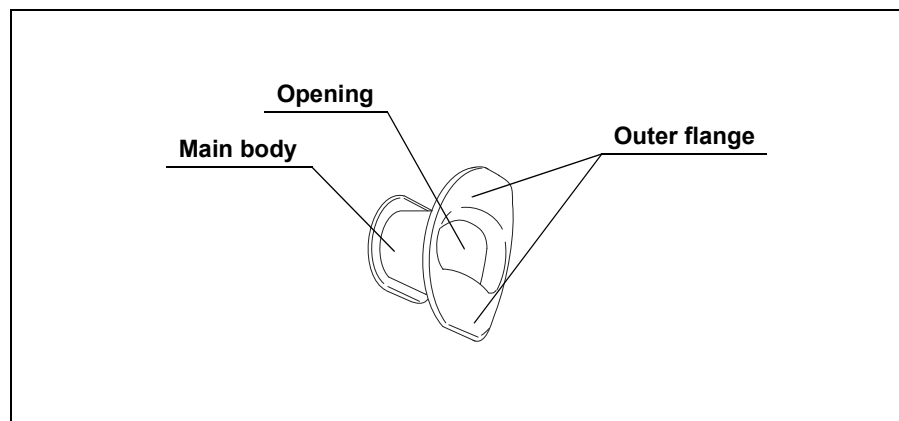

Figure 3.15
1. Confirm that the mouthpiece is free from cracks, deformations, or discoloration (see Figure 3.15).
2. Using your fingers, check all surfaces of the mouthpiece for scratches, cracks, or other irregularities (see Figure 3.15).